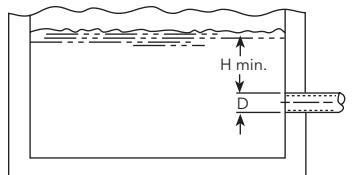

Figure 1
- 3.6.** Size of inlet from liquid source, and minimum submergence over inlet, must be sufficient to prevent air entering pump through vortexing. See Figures 1 through 4.